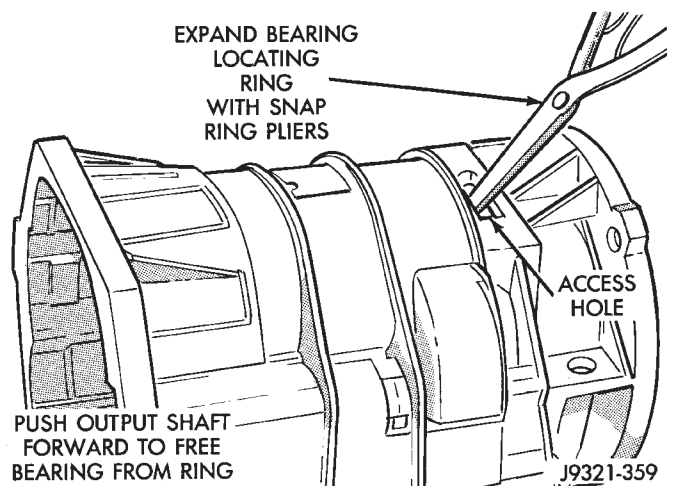

Fig. 204 Releasing Bearing From Locating Ring
(5) Expand output shaft bearing snap ring with expanding-type snap ring pliers. Then push output shaft forward to release shaft bearing from locating ring (Fig. 204).